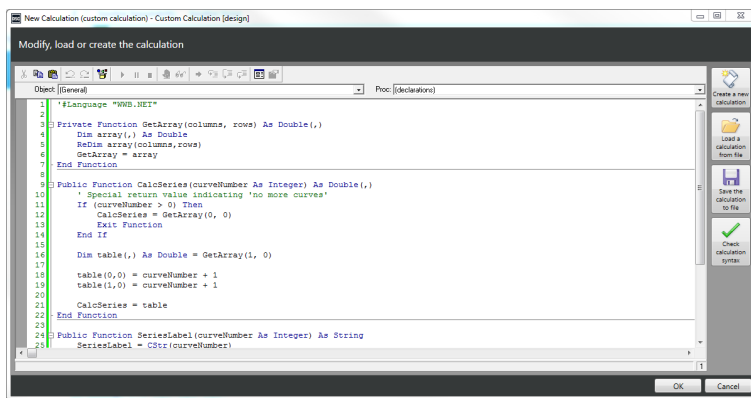

Figure 6.10 New Calculation window
4. Click **Edit Script** to modify, load, or create the calculation to include in the report. When you click **Edit Script**, the **New Calculation** window is shown (Figure 6.10). Use the controls in the **New Calculation** window to create, open or save a calculation, or to check the calculation syntax.